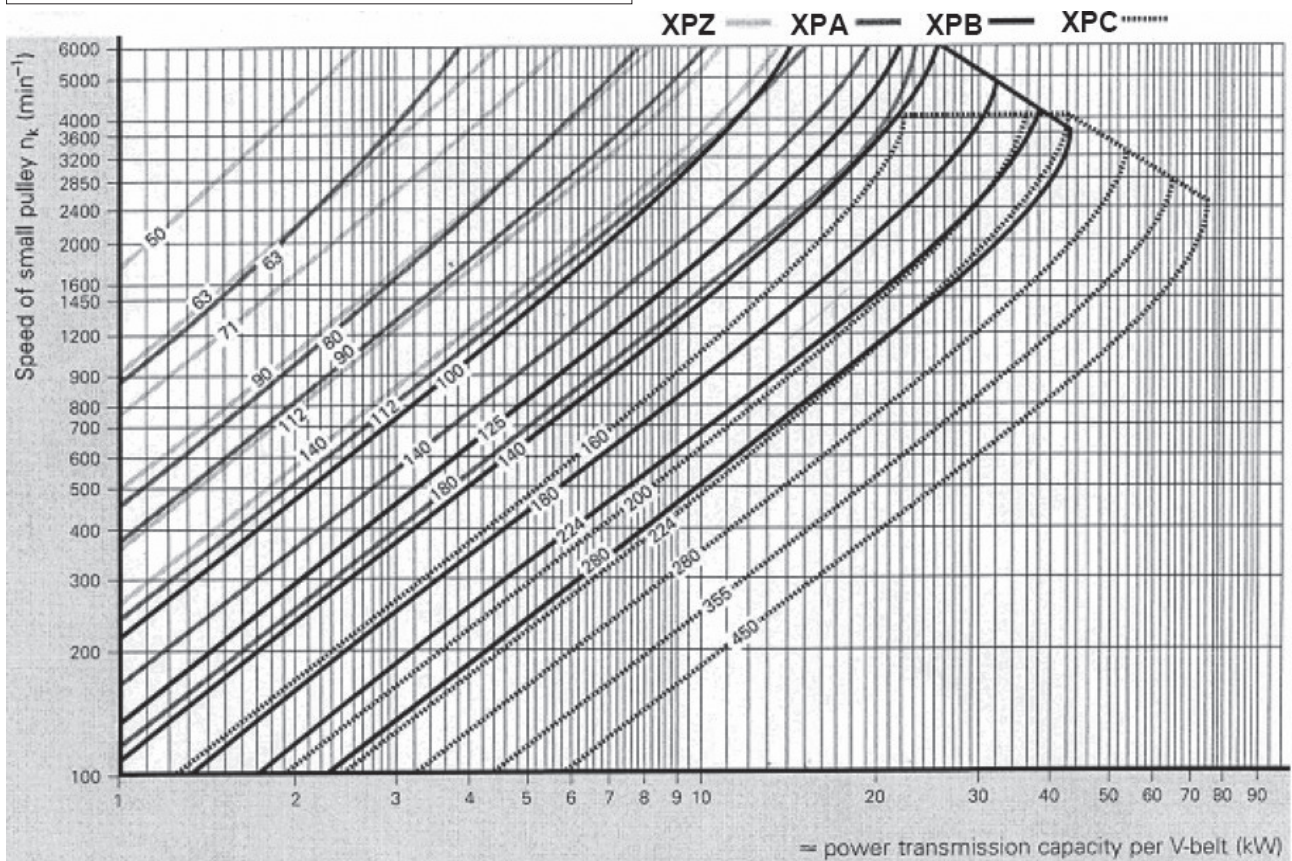
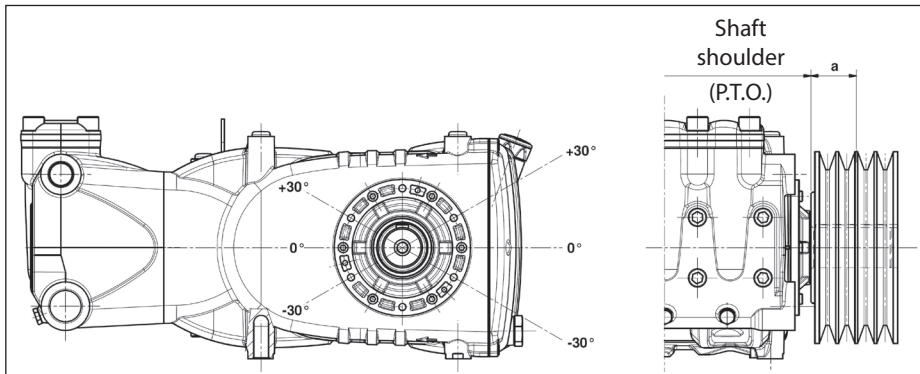

Fig. 7
Fig. 10
For this pump model, we recommend use of 4 XPB belts (16.5x13 serrated). Use an XPC profile only for long durations. Both the characteristics and transmissible power of each belt can be verified in the diagram in Fig. 7, in relation to the number of rpm normally declared by the manufacturer. Minimum duct pulley diameter (on pump shaft): ≥ 250 mm. The radial load on the shaft must not exceed 7500 N (value necessary for Layout definition). The transmission is considered adequate if the load is applied to a maximum distance **a=40 mm** from the shaft shoulder (P.T.O) as shown in Fig. 10.
- b) Use high performance belts – for example **XPB** instead of **SPB** – as a lower quantity of belts for the same transmitted power may be necessary and a consequent shorter resulting distance compared to the shaft shoulder (P.T.O) “a” of Fig. 10.